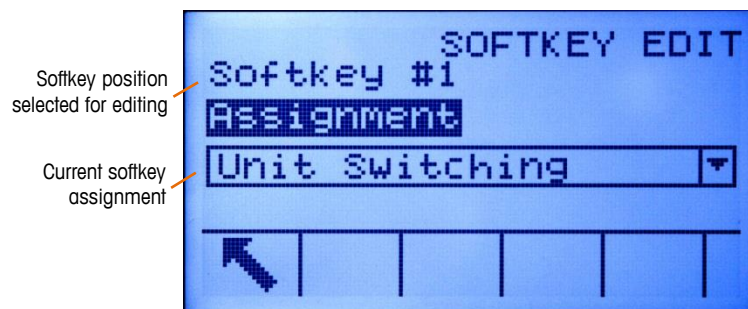

Figure E-4: Softkey Edit Screen
2. Press the EDIT softkey ✎. The Softkey Edit screen (Figure E-4) displays. The softkey position number selected for editing is shown on the screen along with the current assignment.